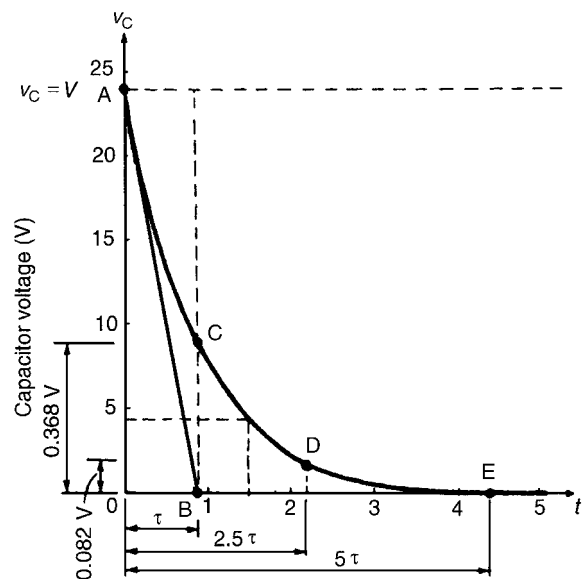

Figure 18.5
(a) The exponential decay of capacitor voltage is from 24 V to 0 V in a time equal to five time constants, i.e. $5 \times 0.88 = 4.4$ s. With reference to Fig. 18.5, to construct the decay curve:
- (vi) the value of the transient after a time equal to two and a half time constants is 0.082 of the initial value, i.e. $0.082 \times 24 = 1.97 \text{ V}$, shown as point D in Fig. 18.5,
- (b) The voltage drop across the resistor is equal to the capacitor voltage when a capacitor is discharging through a resistor, thus the resistor voltage/time characteristic is identical to that shown in Fig. 18.5 Since $v_R = v_C$, then at 1.5 seconds after decay has started, $v_R \approx 4.4 \text{ V}$ (see (vii) above).